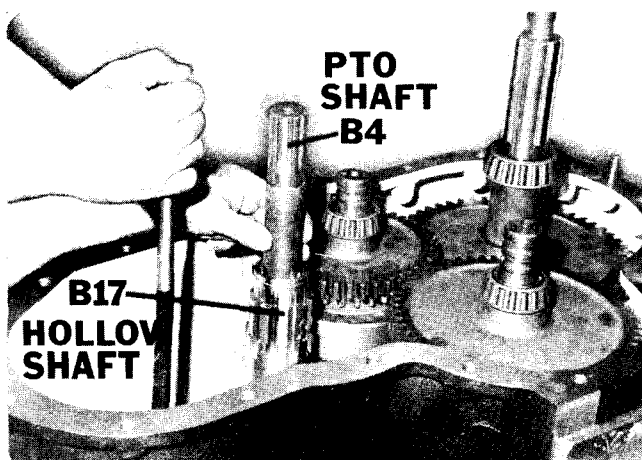

Figure 13
22. Using a pry bar, remove hollow shaft and PTO shaft assembly (B) (Figure 13).
24. Lift two remaining shafts (D & E) straight up and separate when clearance is adequate. (Figure 13).